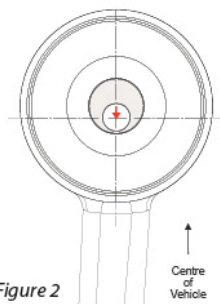

Figure 2
5. Insert stainless steel sleeve into bush as shown in Figure 2, with the bore centered away from the centre of the vehicle.